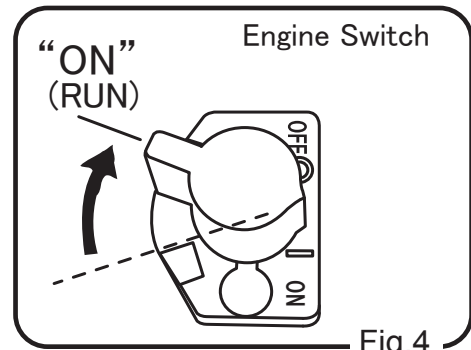

Fig.4
2 Turn the stop switch to “ON (I)” position. (Fig.4)